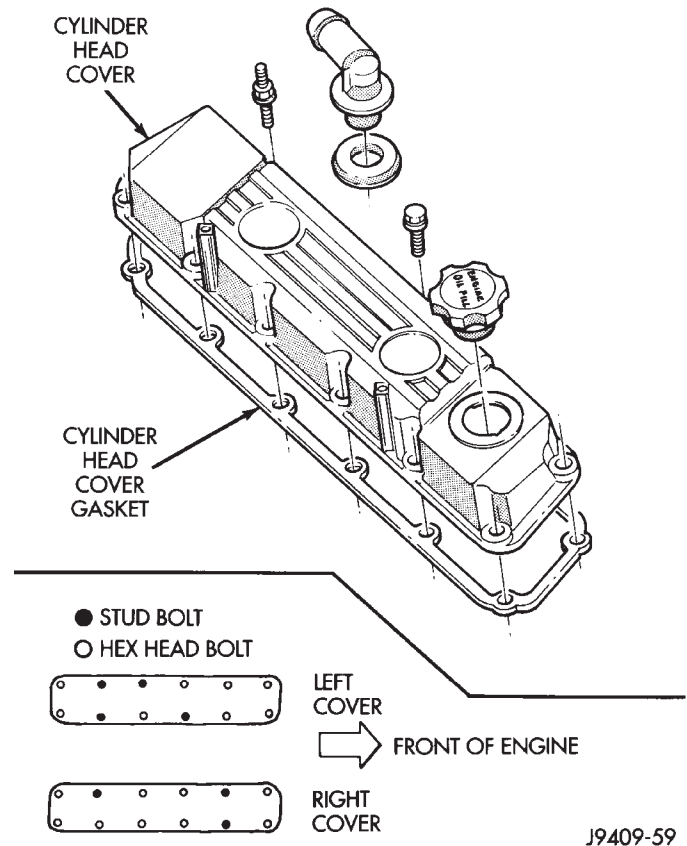

Fig. 42 Cylinder Head Cover
(16) Position the cylinder head cover onto the gasket. Install the stud bolts and hex head bolts in the proper positions (Fig. 42). Tighten the stud bolts and the bolts to 16 N·m (144 in. lbs.) torque.
(17) Install the intake manifolds, (refer to Group 11 Intake and Exhaust Systems).